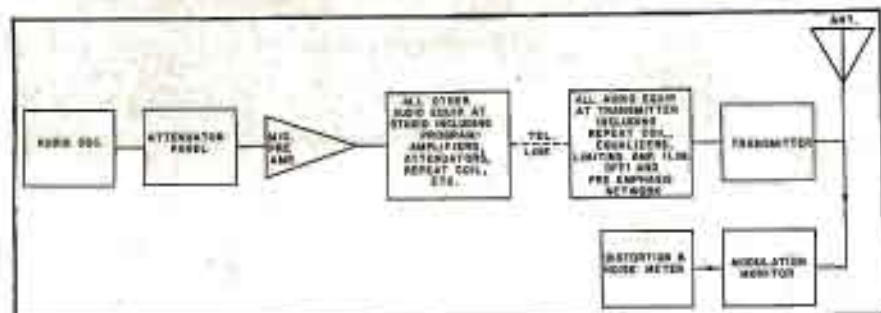
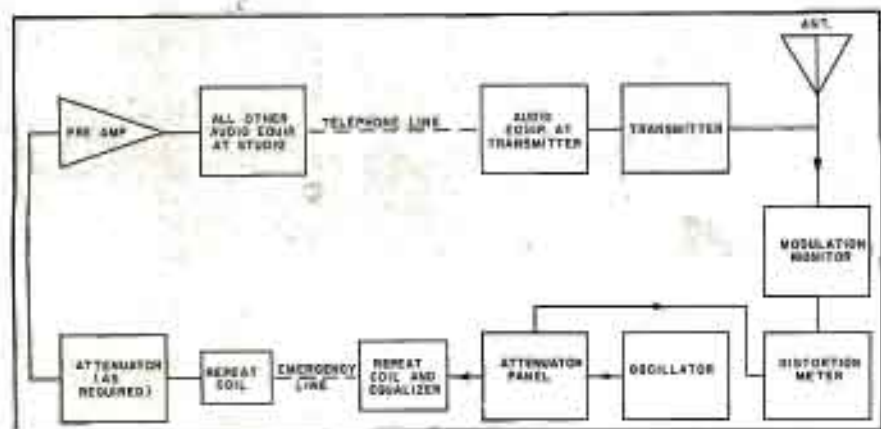

Figure 1a
Figure 1b
**1c) Noise and Distortion Meter:** Two types of noise and distortion meters can be used to meet FCC requirements provided they read harmonics above the 30 kc FCC requirement. One type6 can be used at all installations; Figure 1a. Another7 can be used only where a second circuit with low noise and distortion level exists between the studio and transmitter locations as indicated in Figure 1b. This instrument requires the transmission of the original signal from the oscillator to the distortion meter in addition to the program circuit path since this instrument utilizes a balancing arrangement for the elimination of the fundamental frequency.
It is suggested that the FM noise measurements be made first because the noise is mostly likely to affect the final selection of level settings throughout the system. To make noise measurements, the measuring equipment should be set up as indicated in Figure 1a and the following six steps applied.
equipment setup as used in making the FM noise measurements; Figures 1a and b. There are six steps in this procedure, too: